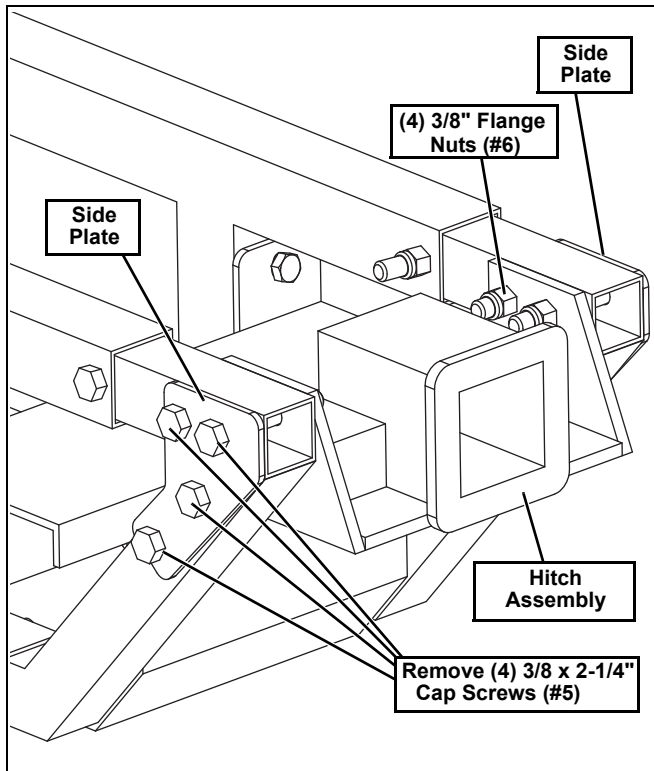
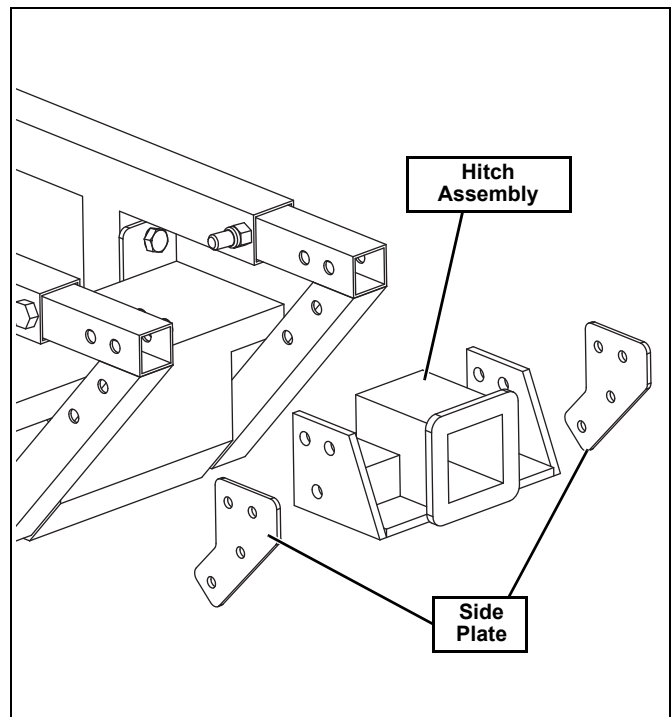

Figure 1
Figure 2
1. Remove the (8) 3/8" x 2-1/4" Cap Screws (#5) and (8) 3/8" Flange Nuts (#6) holding two Side Plates and Hitch Assembly. Four cap screws and nuts per side. Set aside hardware for re-installation. Retain side plates for re-installation if vehicle mount kit is removed. (See Figure 1 and Figure 2.)